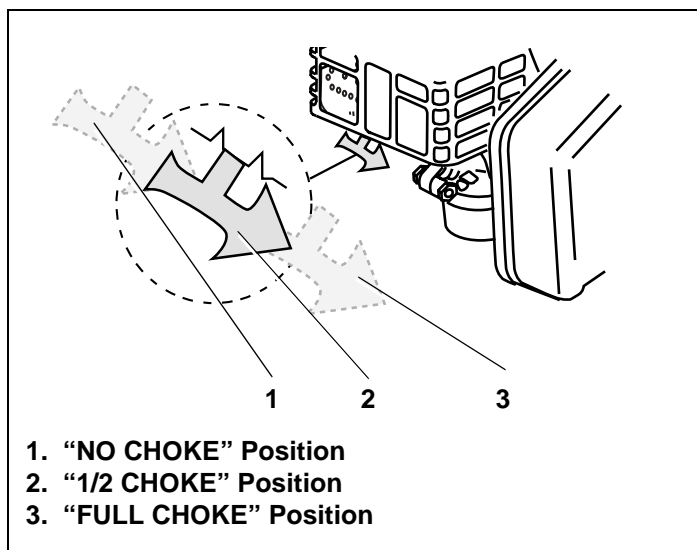

Figure 24. OH195EA/EP/XA/XP Choke Control Positions
*Some OH195EAEP/XA/XP engines are equipped with a choke control lever under the muffler. See Figure 24.*